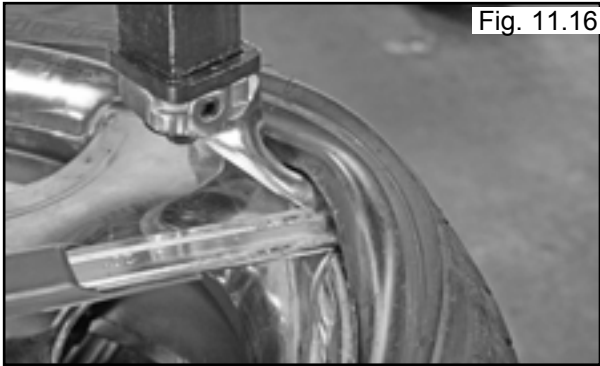

Fig. 11.16
18. Push the Bead Lifting Tool down toward the wheel to lift the tire bead up and over the “duckbill” side knob portion of the Mount/Demount Head. Hold the Bead Lifting Tool in this position. (See Fig. 11.16)